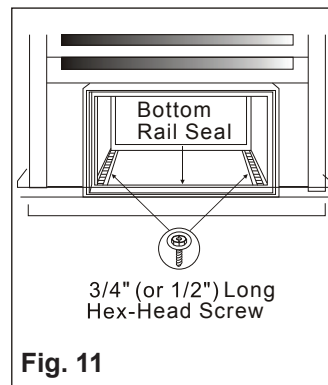

Fig. 11
5. Add bottom rail seal over screws in window sill. (See Fig. 11.)
NOTE: See Fig. 11 of Window Mounting Instructions for bottom rail seal location.